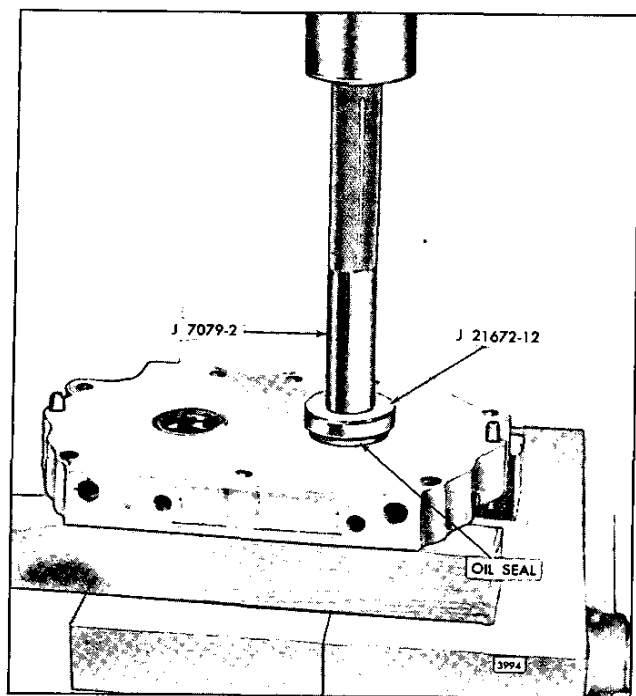

Fig. 11 - Installing Oil Seal in Rear End Plate
- c. Place the oil seal installer J 21672-12 with handle J 7079-2 on top of the oil seal as shown in Fig. 11. Then press the oil seal straight into the end plate until the shoulder on the installer contacts the end plate.